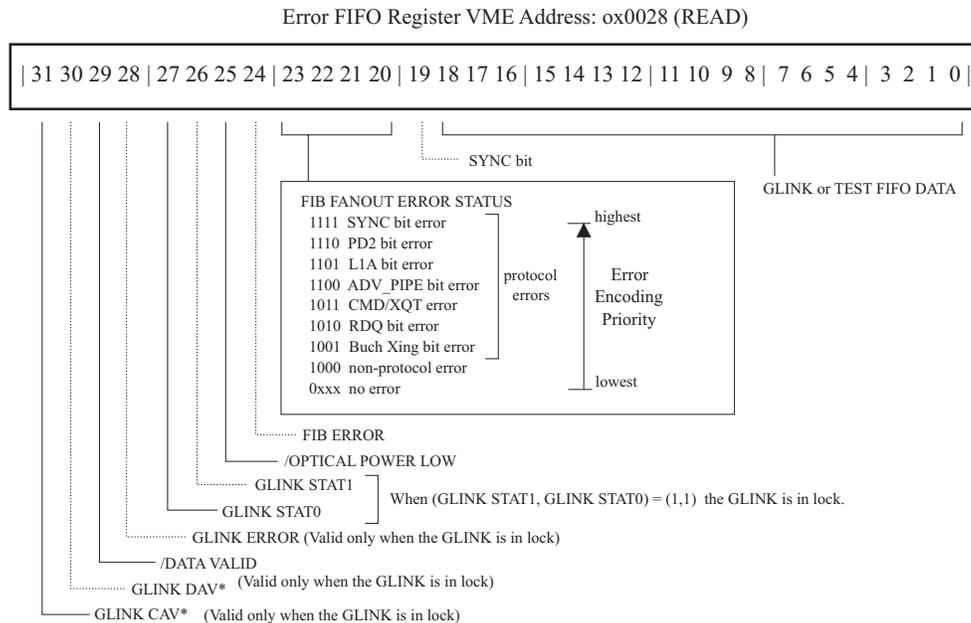

Figure 6.6, Fanout Error FIFO register.
4. After the Error FIFO is triggered it will have 8185 words of the data stream memorized in it. This data is accessible by VME through the error FIFO register (address 0x0028). The error FIFO (Figure 6.6) also stores information about the G-Link connection status, FIB errors and the type of protocol error. Bit 29 of the error FIFO register is the data valid bit it is set to 1 when the data read from the register is not valid (Error FIFO Empty).
4. After the Error FIFO is triggered it will have 8185 words of the data stream memorized in it. This data is accessible by VME through the error FIFO register (address 0x0028). The error FIFO (Figure 6.6) also stores information about the G-Link connection status, FIB errors and the type of protocol error. Bit 29 of the error FIFO register is the data valid bit, it is set to 1 when the data read from the register is not valid (Error FIFO Empty).